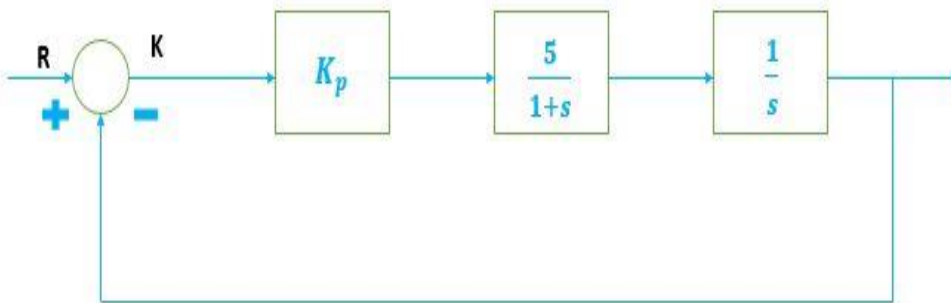
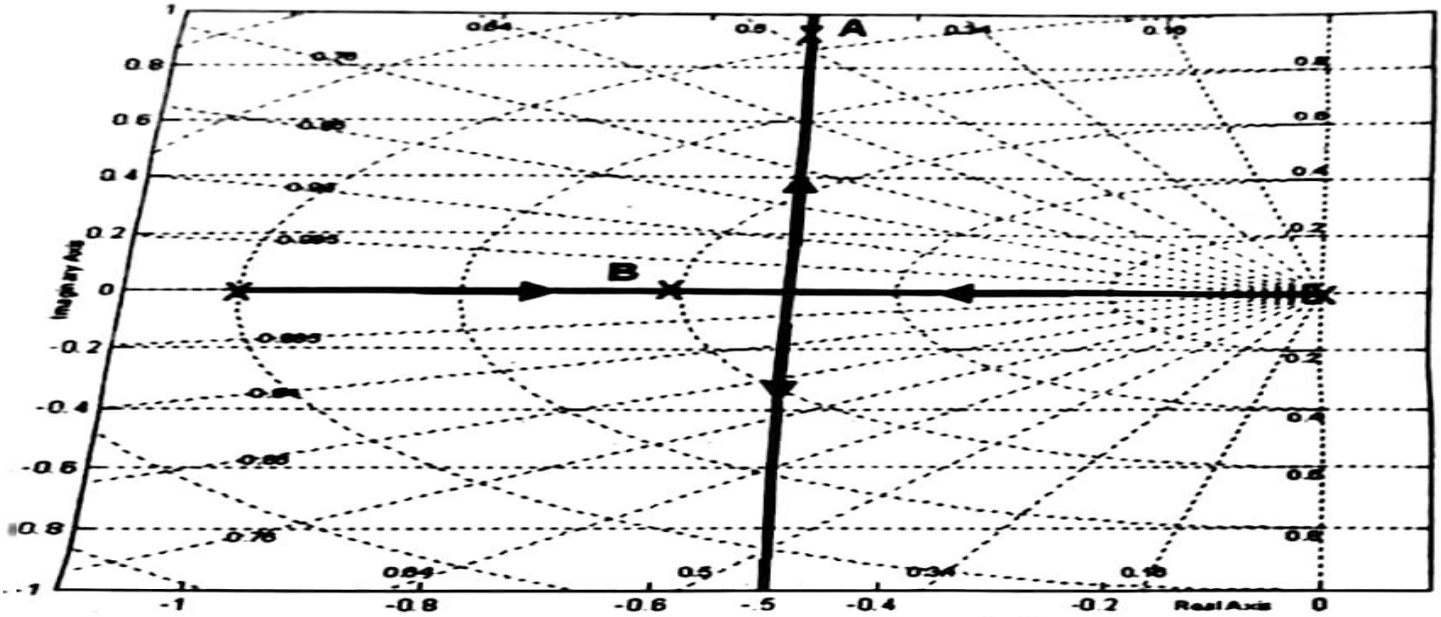

Figure 1
Figure 2: Root locus for the system  $G(s) = 5/(s^2 + s)$
**Example (5) :** Figure 1 shows the block diagram of a motor position control system, Figure 2 is the root locus of the system  $G(s) = \frac{5}{s^2+s}$  its required to select  $K_p$  such that the response to a unit step input satisfies:
If ( $K_p1$ ) is the controller gain that corresponds to poles at [A] and ( $K_p2$ ) is the controller gain that corresponds to pole [B] as shown in Figure 2. Fill the bellow table with  $\checkmark$  if performance condition is satisfied and with  $\times$  if condition is not satisfied.